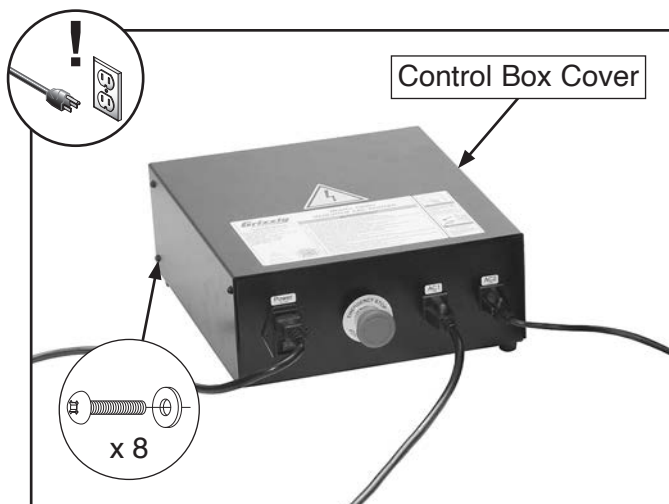

Figure 77. Location of control box cover fasteners.
2. Remove (8) Phillips head screws and flat washers securing control box cover, then remove cover (see **Figure 77**).